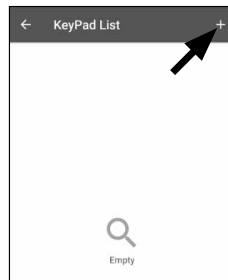

Fig. 9
⑥ A list of any keypads that have already been registered is displayed. Add a new keypad by tapping on the "+" in the top right-hand corner (Fig. 9).